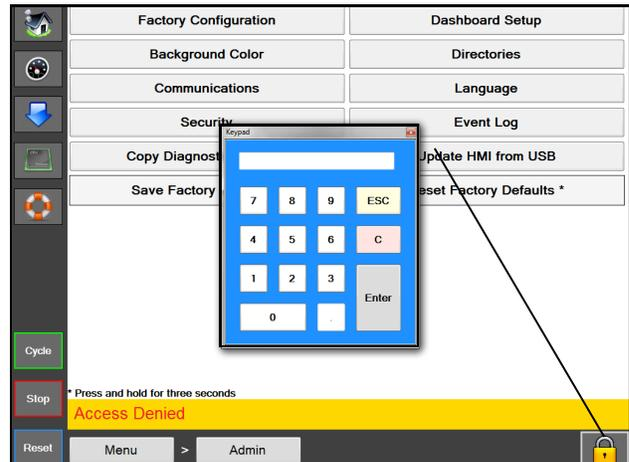

Figure 1-11C. Keypad
1. Touch the padlock Icon and enter the designated password. **Figure 1-11C.**